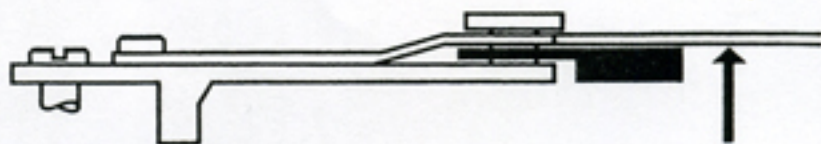

Fig. 10
3.1.5. With the reverser in the working position, fit the operating-lever (fig. 10) and screw it tight.